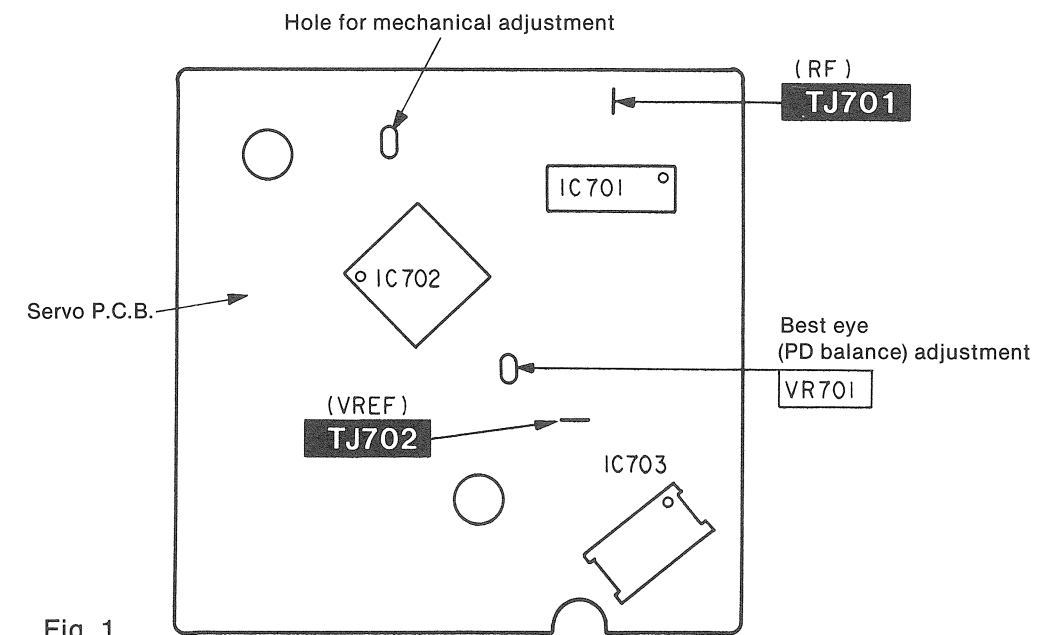

Fig. 1
3. Adjust **VR701** until the vertical fluctuation of RF signal is minimized and the eye pattern is most stretched. (Refer to Fig. 1 on page 20)